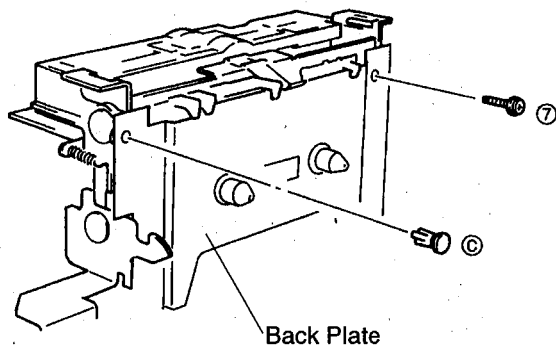

Fig. 7
- a. Remove 1 screw (⑦) and 1 plastic rivet (ⓐ) in Fig. 7 and then remove the Back Plate.